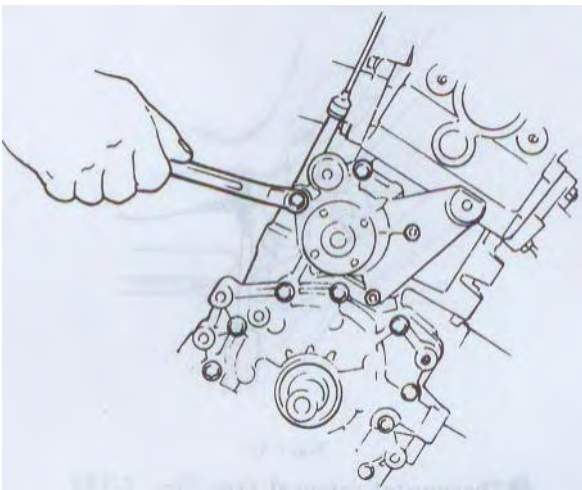

FIG.6-18 (see fig.7-19 of service manual for HFJ6351B)
- (9) Remove crankshaft timing pulley.
- (10) Remove timing belt inner cover.
- (11) Remove water pump (FIG.6-18)